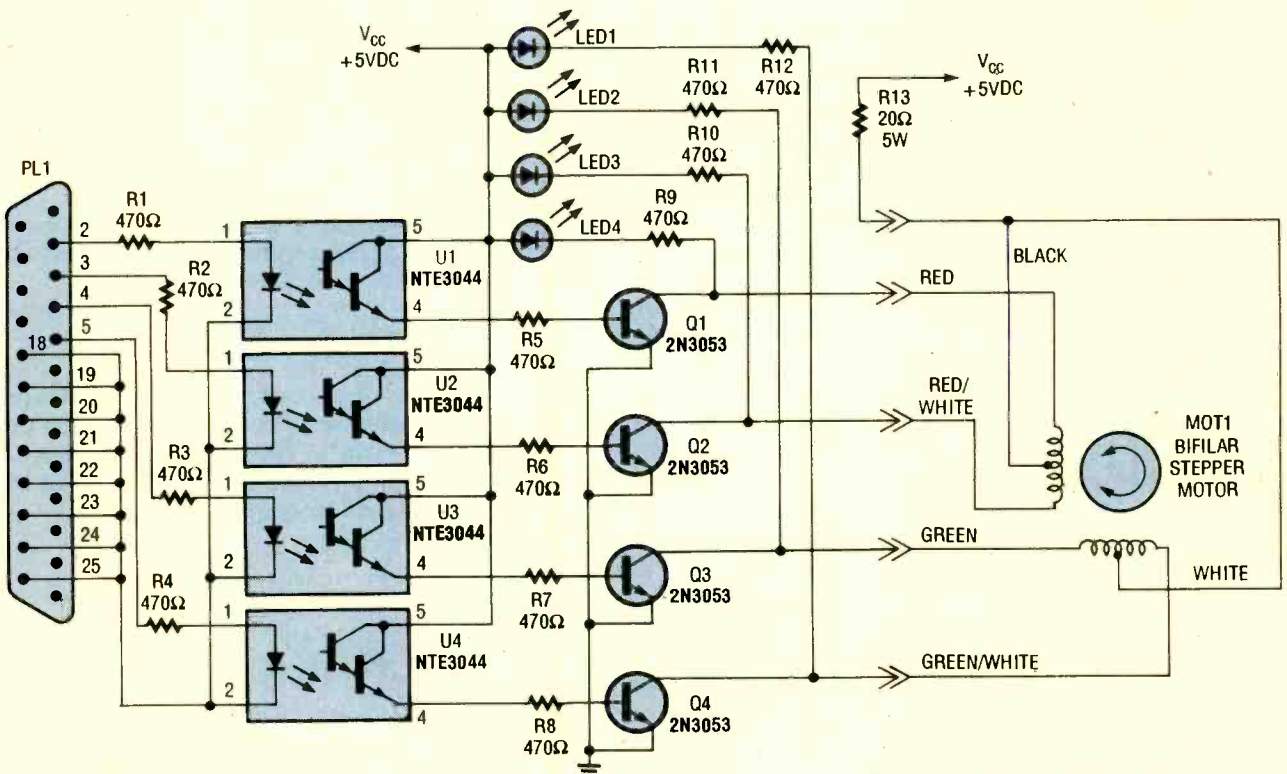

Fig. 3. The motor-control interface is really an isolating circuit. It isolates the computer port from the motor.
**Our Controller.** Rather than relying on a large quantity of logic gates or a dedicated microprocessor, our controller board (see Fig. 3) is simply a "dumb" interface between the computer and the motor. That means that